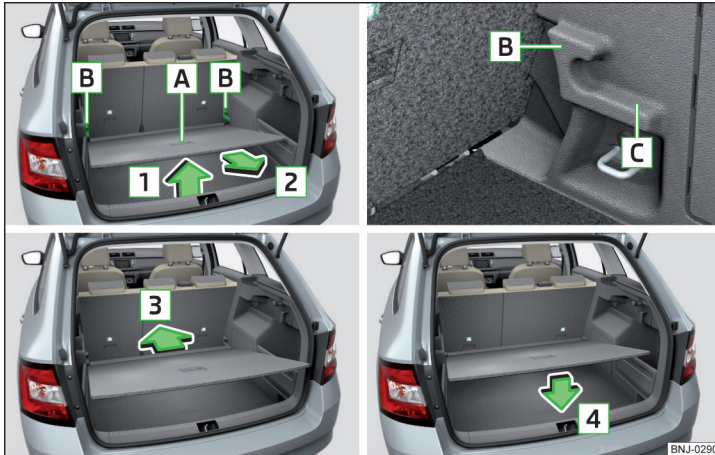

Fig. 115 Set the variable loading floor to the upper position
- Raise the variable loading floor by the handle **A** in direction of arrow **1** and move partially in the direction of arrow **2** » Fig. 115.